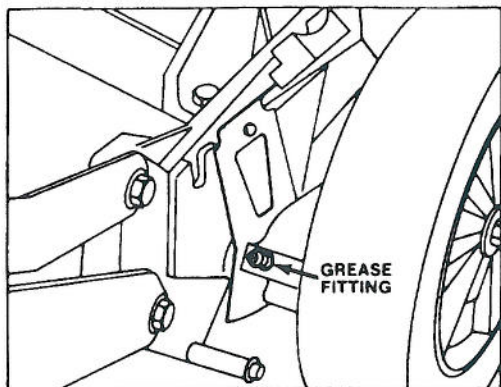

Figure 23
2. Model 20620 only—Move rear wheel height-of-cut levers to "C" setting. Wipe grease fittings with clean rag (Fig. 23). Install grease gun on-to fitting and gently apply 1 pump of #2 Multi-Purpose Lithium Base Grease. Excess pressure may damage seals.